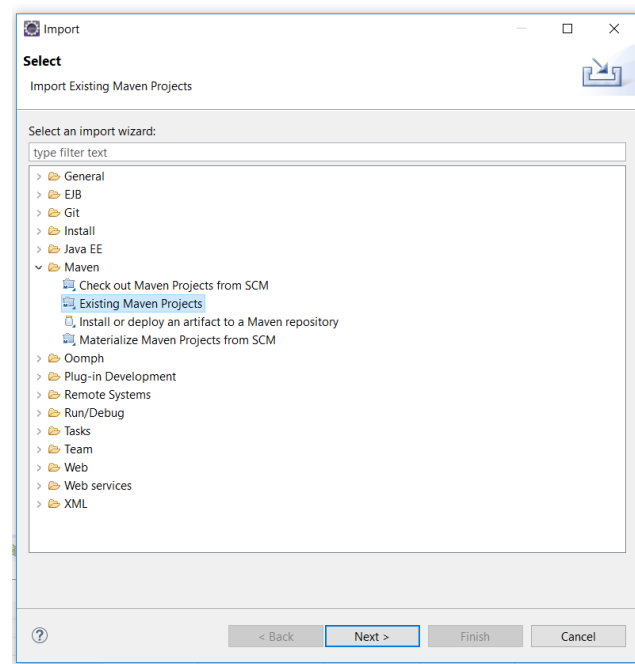

Figure 2.3
**Step 3:** Select Maven -> select Existing Maven Projects (see Figure 2.3)